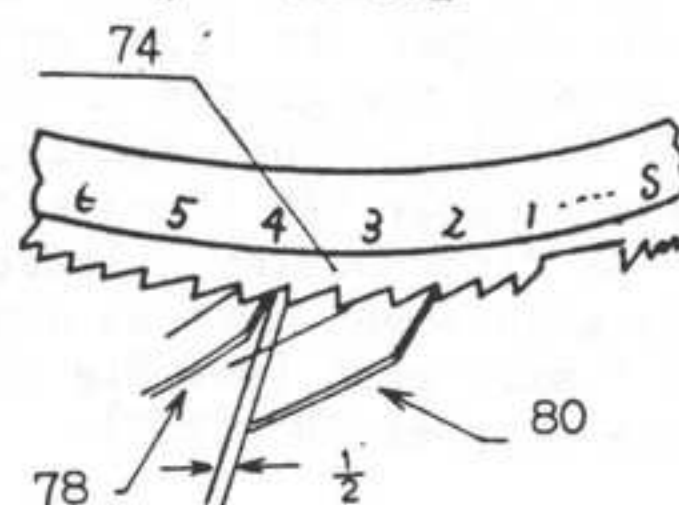

Fig 8
Make adjustment of Stopping pawl (80) so that the end of it may come in the third pitch of Counter base (74) from its notch as shown in Fig. 8. At the same time adjust Frame advance pawl so that it may come over a half to one third of the 7th pitch of Counter base (74) from its notch. Adjust and make a space of a half to one third of a pitch between the tooth of Counter base (74) and the end of Stopping pawl (80). See Fig. 8'.